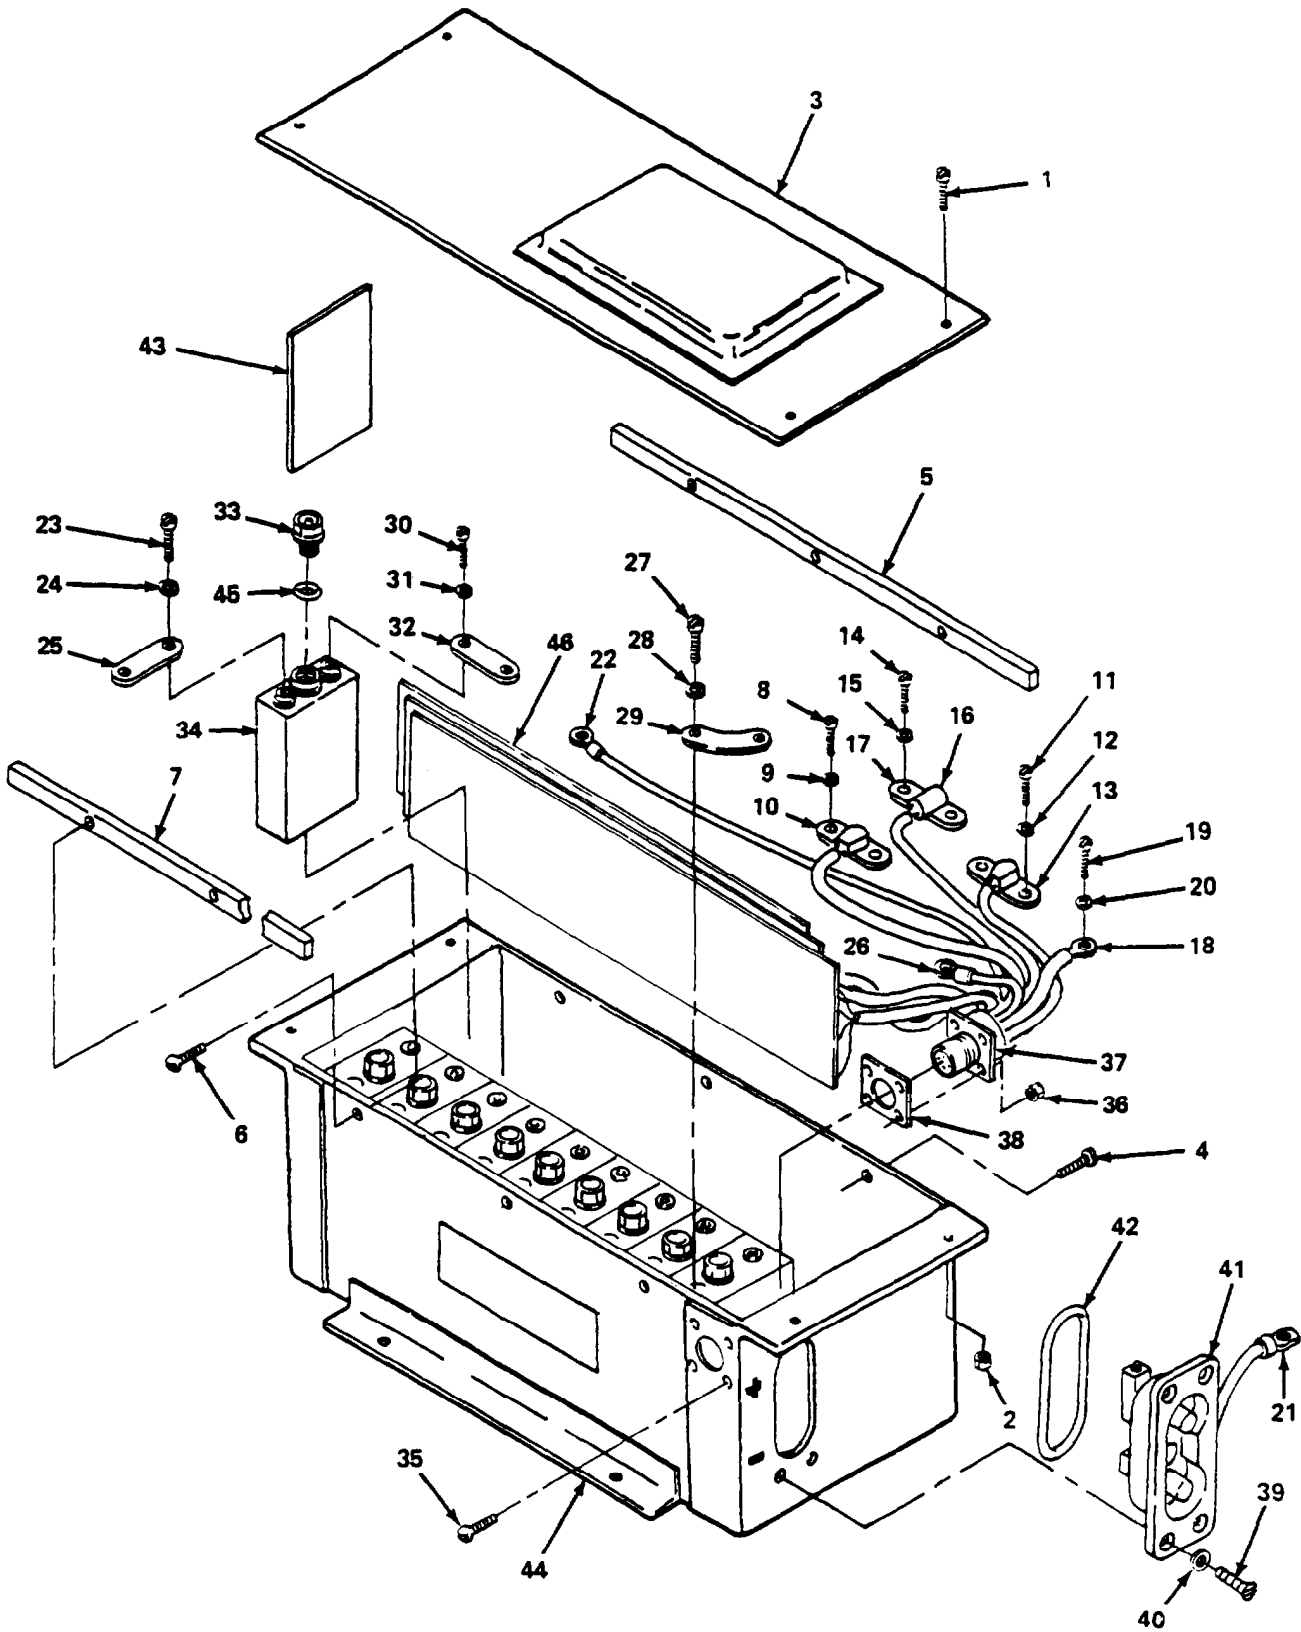

Figure 3-26. Battery BB-664/A Disassembly.
a. Disassembly/Reassembly (fig. 3-26).
- (1) Remove four screws (1) and nuts (2) and remove cover (3).
- (2) Discharge battery (para 3-10).
- (1) Discharge battery (para 3-10).
- (2) To remove any of the above items, refer to the exploded view (fig. 3-26) and the appropriate sections of paragraph 3-24.a.
- (3) Upon completion of repair, perform the test procedures contained in paragraph 3-24c, below.